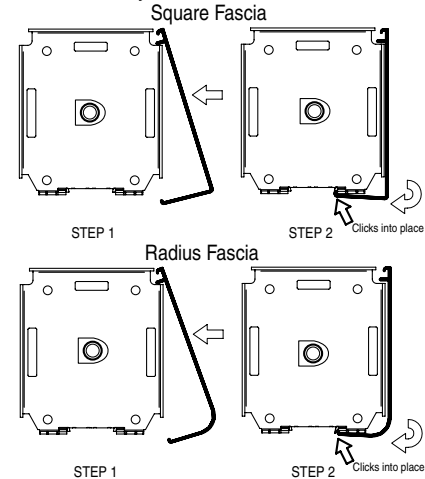

Figure 5
- ⑮ Place fascia top lip over top edge of endcaps, then rotate down and snap into place (see Fig. 5). NOTE: Make sure shade fabric does not retract completely behind fascia.